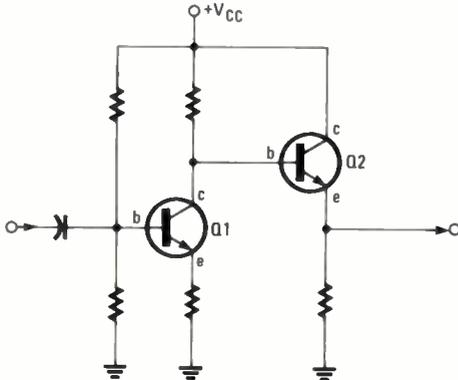

Fig. 18—This circuit combines a direct-coupled amplifier (Q1) with an emitter-follower (Q2) output.
46. (power) The emitter follower is widely used to increase the power level of a signal. It is also used for impedance matching where a high  $Z_o$  must drive a low value of load resistance. Figure 18 shows how an emitter follower is used with a common-emitter stage. The combined circuit provides both voltage and power gain.
The common-emitter amplifier and emitter follower in Fig. 18 are \_\_\_\_\_ coupled.